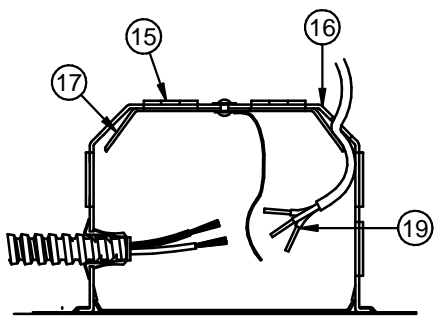

FIG. 4
3. Locate Housing along Bar Hanger in desired position and, using pliers, squeeze the 4 Locking Tabs (12) on the Plaster Frame (13) tightly over the Bar Hangers to prevent further Housing movement. Set screws (1) are provided that can be tightened to lock the housing on the hanger bars.
4. As desired, hanger bars (6) may be shortened at score mark to fit tight mounting conditions and joist alignment tabs removed to adjust vertically as needed by breaking off with pliers.
5. Unsnap Junction Box Cover (14) by lifting the Leaf Spring (24).
6. Run supply wires through UL Listed connectors (not supplied) in one of the five Pryouts (15) on the Junction Box (16) or Type NM cable (ROMEX) through an Opening above the Wire Retaining Plate (17). Connect Supply Wires (19) as shown in Fig. 4 & 5. Replace Cover.